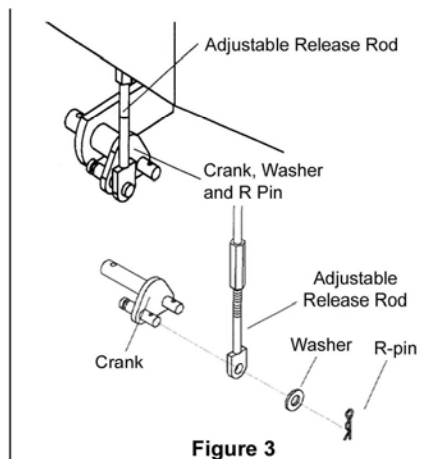

Figure 3
- Fig.3 Remove washer and R pin. Insert lowering lever rod onto crank shaft, then spring washer, insert R pin thru hole.